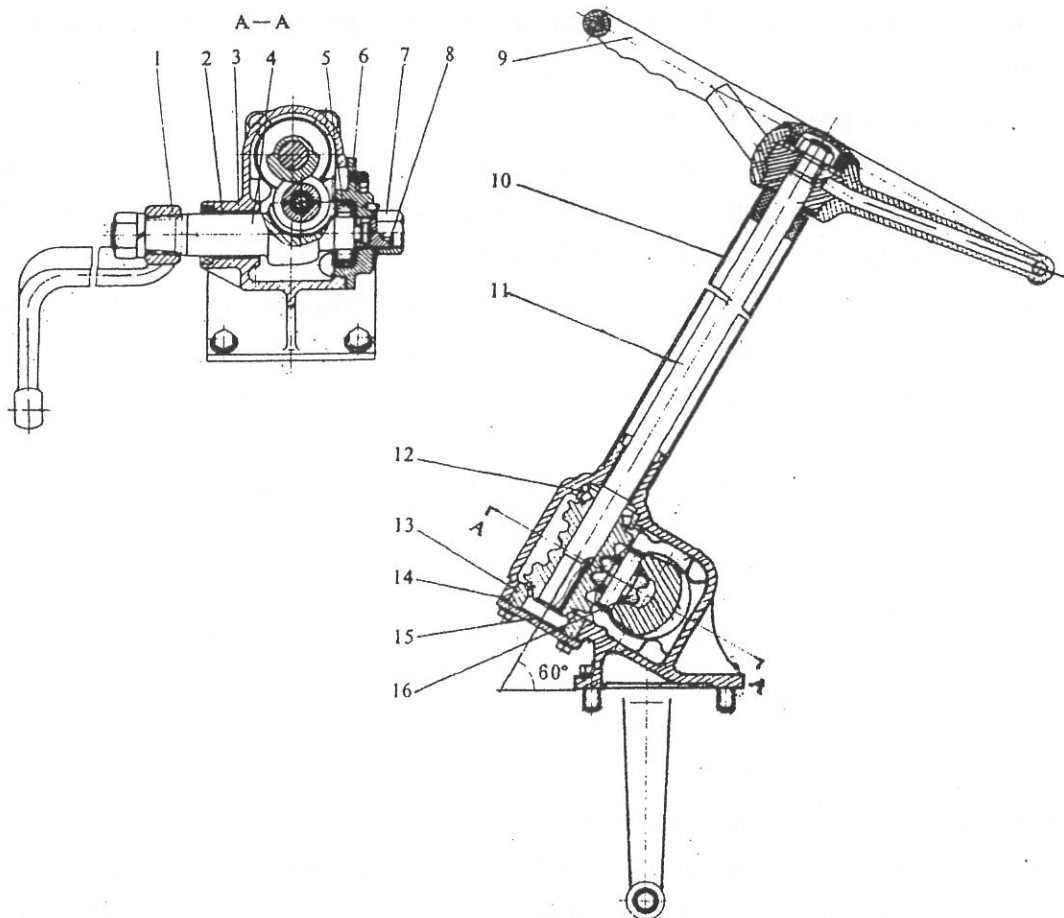

Fig. 3—8 Steering gear assembly
The structure of this type steering gear is as shown in Fig. 3—9. Steel balls (5) are mounted in the thread groove between steering threaded rod (6) and steering nut (4). The two ends of the thread groove of the steering nut (4) are connected by the guide